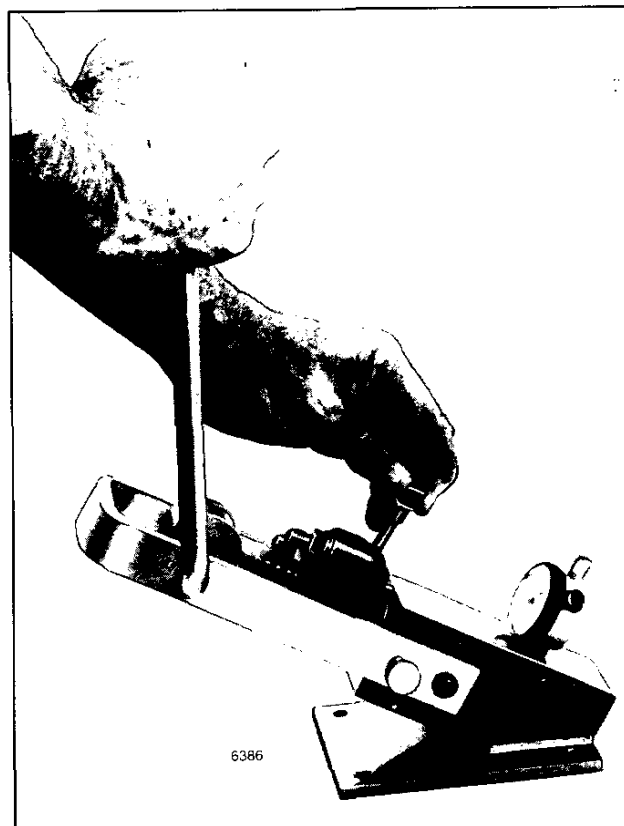

Fig. 37 – Checking Rack for Freeness in Tester J 29584
Place the injector in Tester J 29584 (Fig. 37) and check rack freeness.
1. Place the injector in Tester J 29584 (Fig. 37) and adjust the dial indicator to zero.